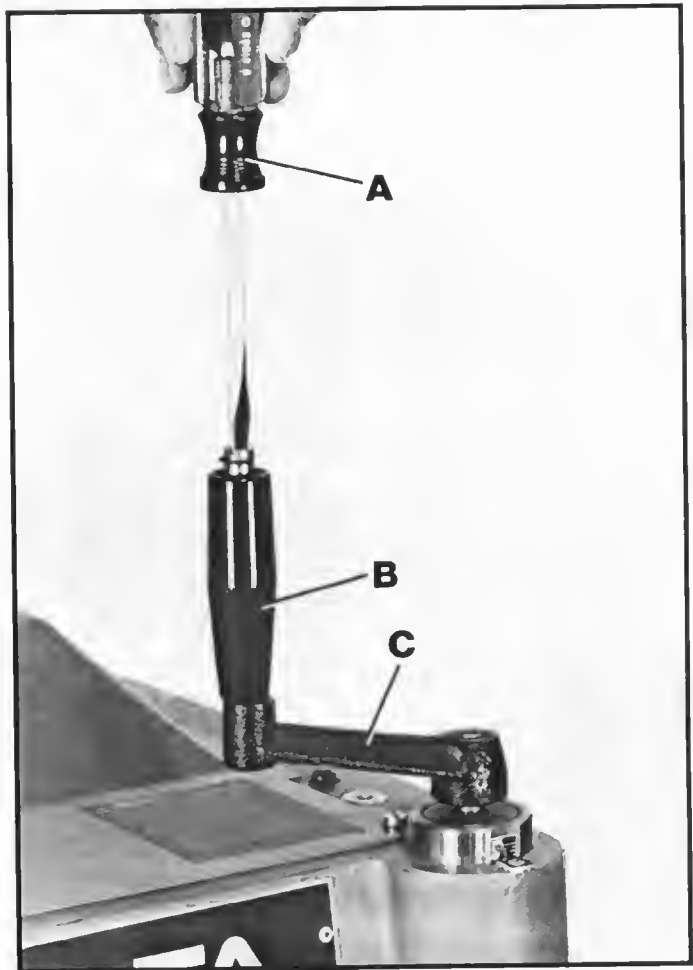

Fig. 4
1. Using a screwdriver (A), assemble the head raising and lowering handle (B) to the handle bracket (C), as shown in Fig. 4.